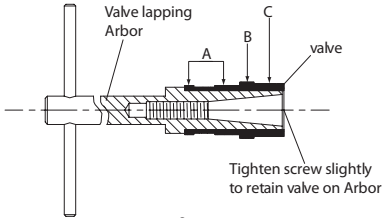

figure 1
- a. Install the Valve on the No. 29189 or No. 29407 Valve Lapping Arbor as shown in Figure 1.